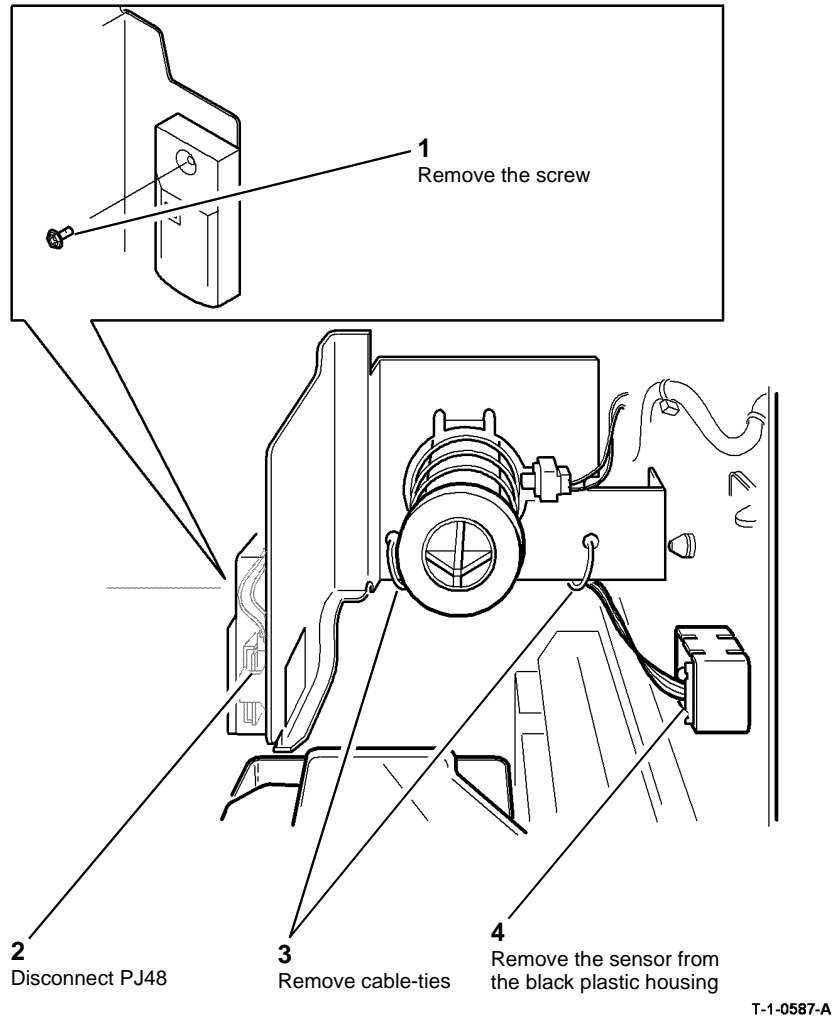

Figure 1 Waste toner full sensor
- Remove the waste toner full sensor, Figure 1.